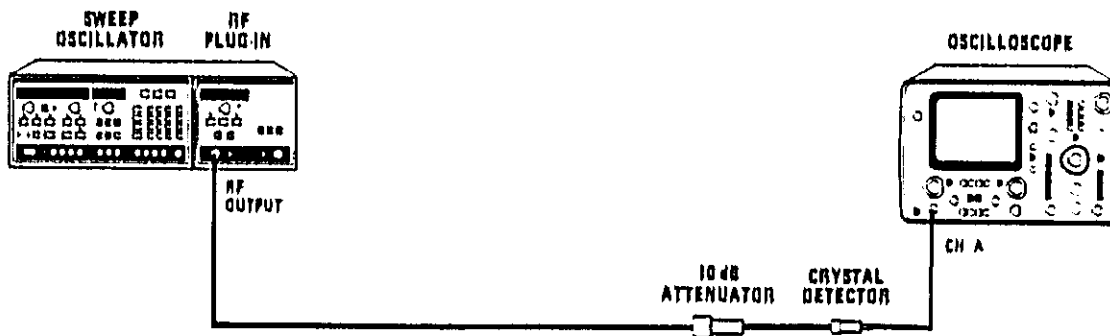

Figure 5-33. Squarewave Symmetry Adjustment Setup
1. Connect the equipment as shown in Figure 5-33, with A4 on an extender board. On the HP 8350A/B, press [INSTR PRESET] [CW] [L] [MOD]. Set the RF power level to 0 dBm and allow the equipment to warm up for one hour.